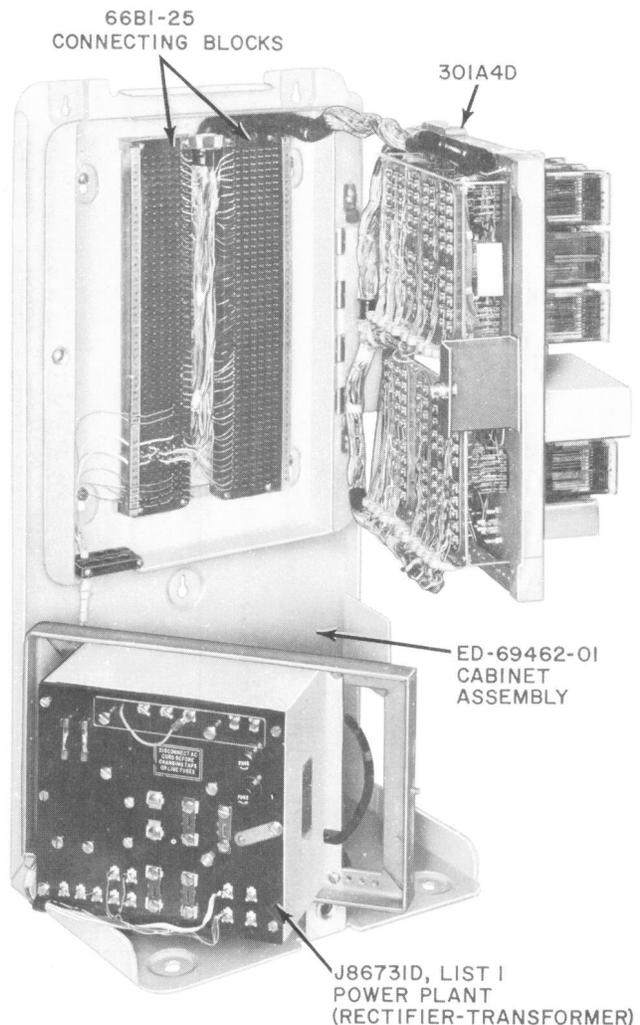

**Fig. 2—301A2D KSU, Cover Removed**
**2.08** Fig. 2 shows a 301A2D KSU arranged for wall mounting.